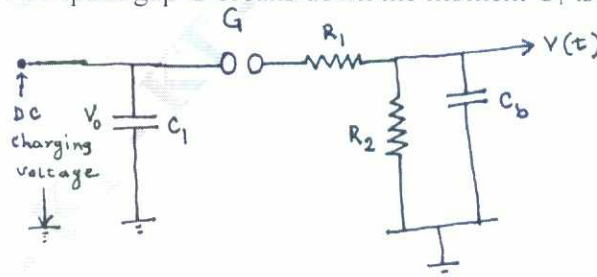

Fig.Q5(b)
- b. Derive an expression for the output voltage of the single stage impulse generator shown in Fig.Q5(b). The spark gap G breaks down the moment C_1 is charged to V_0 .